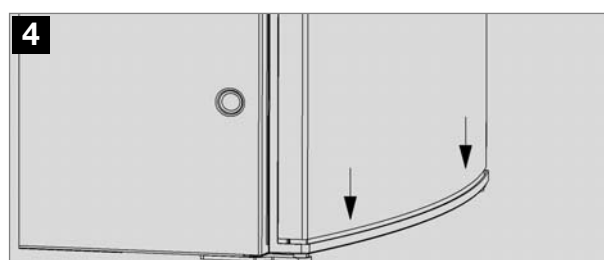

Fig. 31
- The gas connection to the appliance is 1/8"BSP Female (s. figure 31).